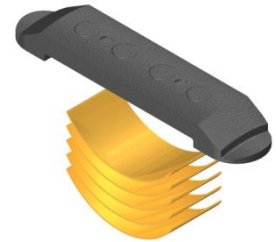

Fig. 6
**NOTE10:** Install five (5 ea) drag block springs per drag block (Fig. 6).